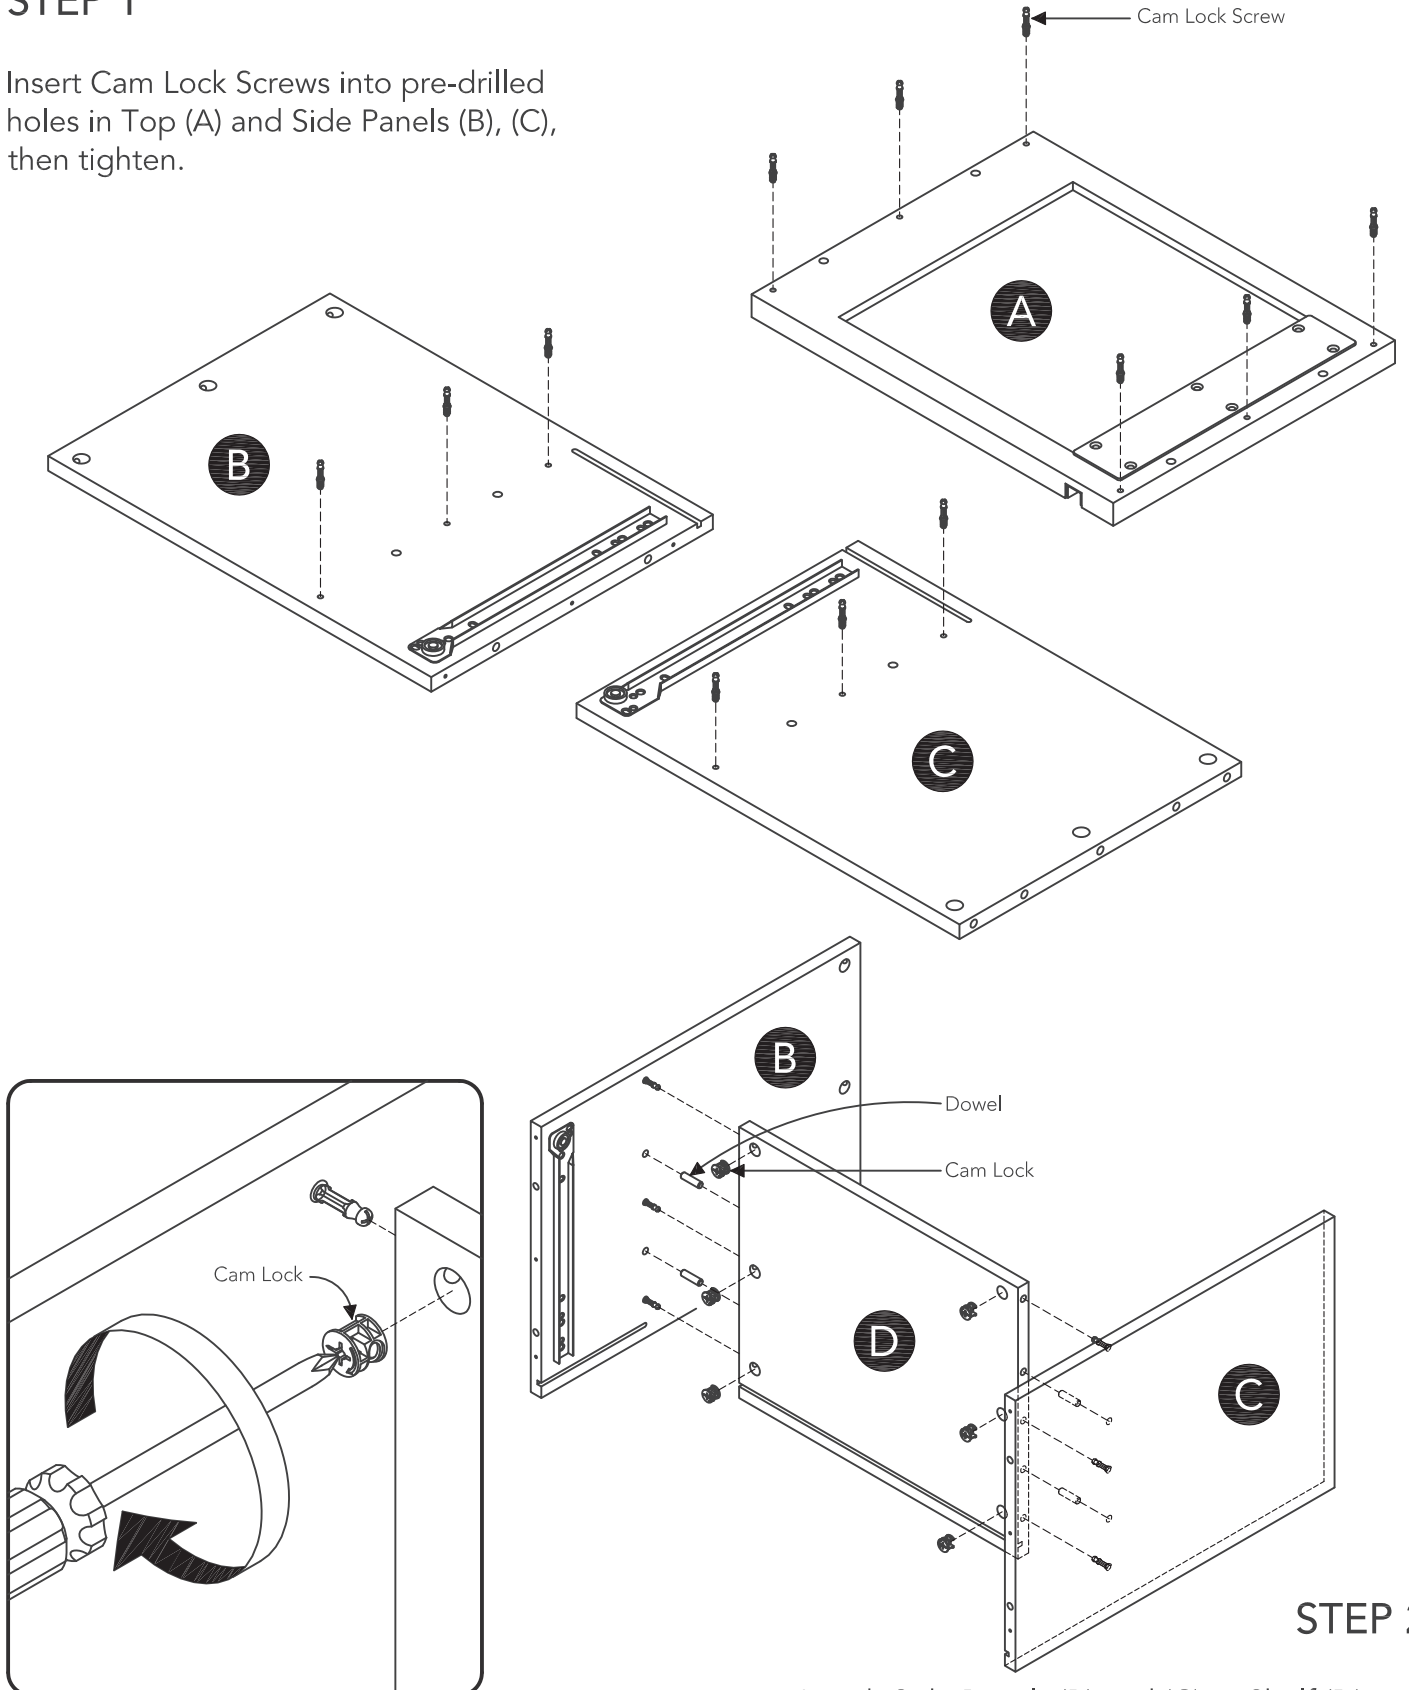

Figure 1
Attach Side Panels (B) and (C) to Shelf (D) with Dowels and Cam Locks. (See Figure 1)